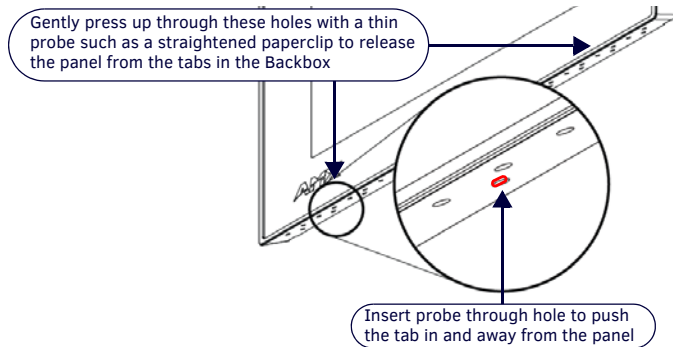

FIG. 7 MSD-431-L/BACKBOX ASSEMBLY
- With a straightened paper-clip, carefully press straight into the access holes indicated in FIG. 7, to disconnect the two bottom latches.